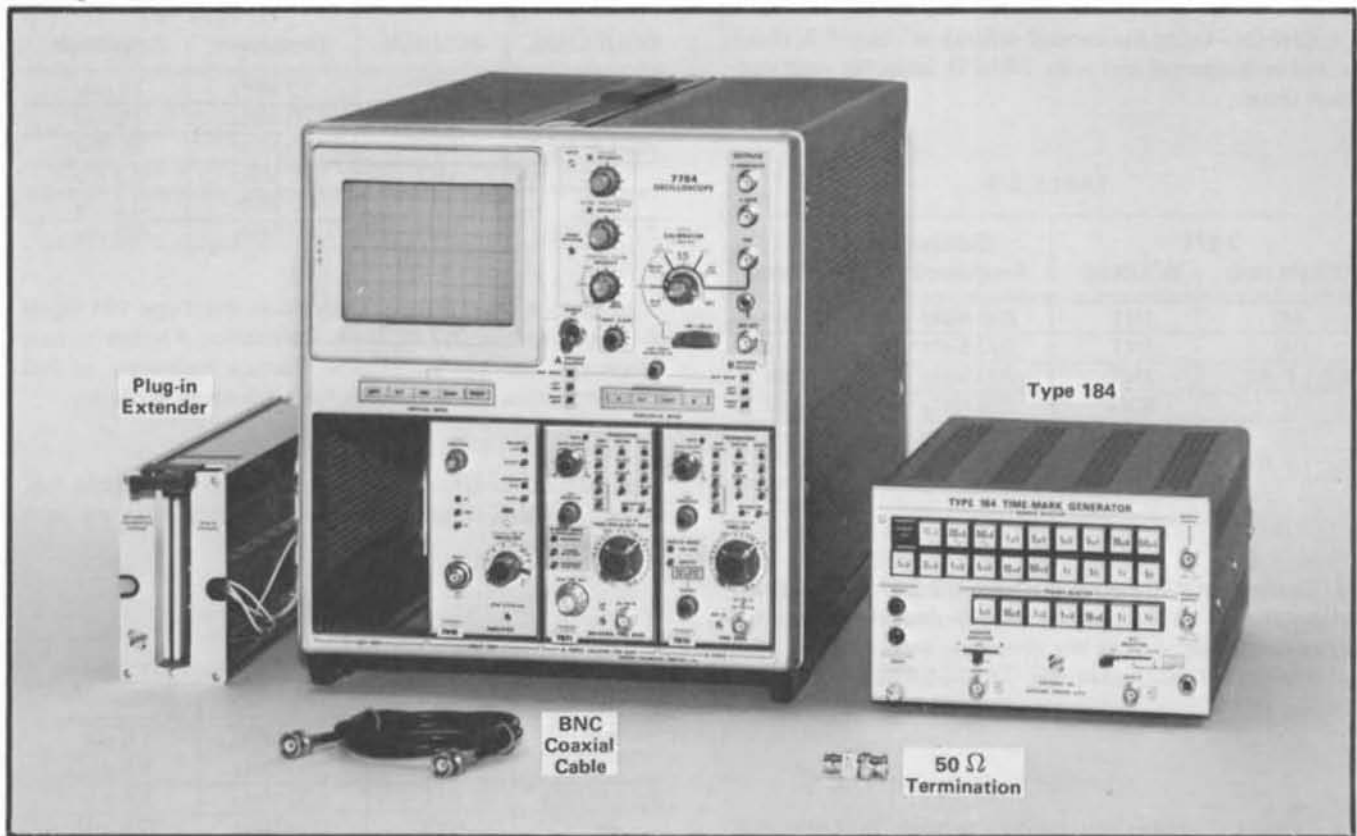

Fig. 5-6. Test equipment required for steps 13 through 25.
13. Check/Adjust Sweep Calibration (SWP CAL, a front-panel adjustment) ❶
- Test equipment required is shown in Fig. 5-6.